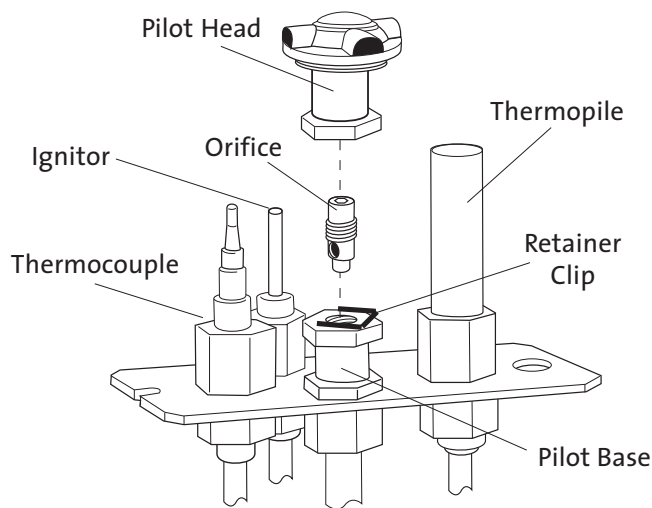

Figure 16. Pilot orifice removal and replacement.
11. CHANGE THE PILOT ORIFICE: From within the firebox, remove the Pilot Head by pulling it straight up from the pilot base. See fig. 16. Using the 4 mm hex key included with the kit, unscrew the pilot orifice (counter-clockwise). Replace with the appropriate orifice: